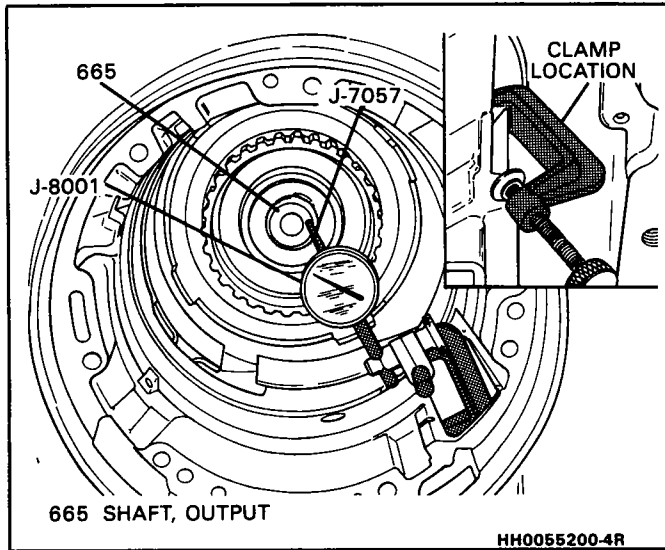

Figure 30 Output Shaft End Play Check
**📏** Measure (Figures 30 and 31)